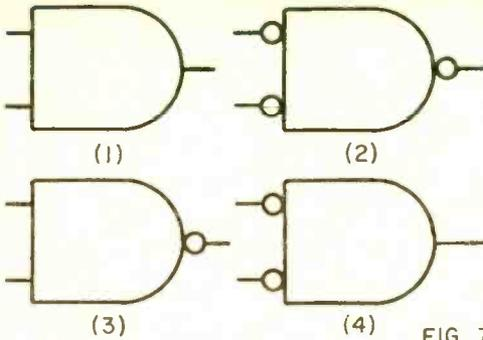
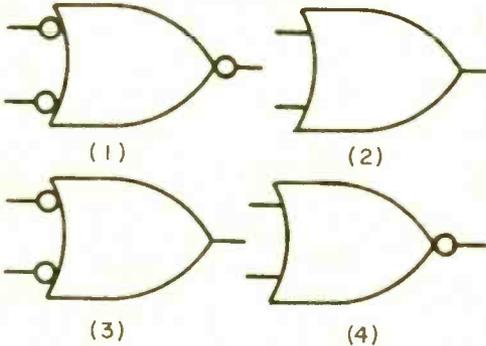
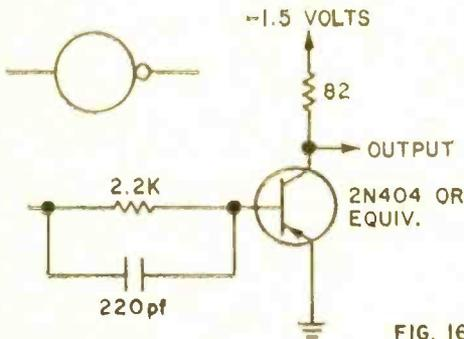

FIG 7
FIG 8
FIG. 16
It's important to understand the discussion up to this point because there are so many variations of basic *AND* and *OR* circuits. However, insofar as circuit design is concerned, we can consider four different distinguishable *AND* type circuits which can be represented symbolically as shown in Fig. 7.
In accord with De Morgan's Theorem each of these can be represented by its equivalent *OR* as shown in Fig. 8.
Symbols (1) and (2) in both Figs. 7 and 8 are referred to as: *AND/OR* logic. Symbols (3) and (4) are referred to as: *NAND/NOR* logic.
The actual logic functions we use in a specific problem are determined by which of these four basic logic designs we select and whether the logic level is *High* ( $\uparrow$ ) or *Low* ( $\downarrow$ ). As an example, if the logic level is *High* ( $\uparrow$ ), *AND* logic will be represented by the functions (1) in Figs. 7 and 8. These same functions will conform to *OR* logic if the logic level is *Low* ( $\downarrow$ ).
If the logic level is *High* ( $\uparrow$ ), *OR* logical will be represented by the functions (2) of Figs. 7 and 8.
Remember, the four symbols in Fig. 7 represented *AND* functions of four separate circuits, and the symbols in Fig. 8 represent the *OR* functions of the same four circuits.
A basic inverter building block schematic is detailed in Fig. 16. The schematic for this basic *NAND/NOR* module whose functions are the same as those depicted in Figs. 7 (3) and 8 (3) is illus-
You have the choice of naming your logical 1 level as Low (↓) or High (↑). Since we are using the particular circuit of Fig. 16 as our basic hardware, we have *NAND/NOR* logic. If we're to call logical 1 High (↑) then we have narrowed it down to *NAND* logic. If we decide to reference logical 1 Low (↓) then we would be dealing with *NOR* logic. Had Q1 of our basic circuit been an npn and with 1.5-V polarity change as required, then this *NAND/NOR* logic would be a *NAND* logic for logical 1 Low (↓) and *NOR* logic for logical 1 High (↑). Refer to the Logic Guide.